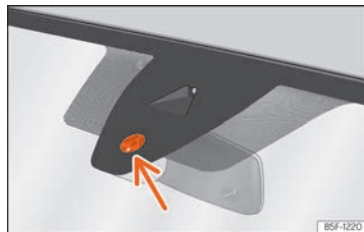

Fig. 110 Rain sensor sensitive surface
Possible causes of faults and mistaken readings on the sensitive surface »» Fig. 110 of the rain sensor include:
- Regularly clean the sensitive surface of the rain sensor »» Fig. 110 (arrow) and check for possible damage to the wiper blades.